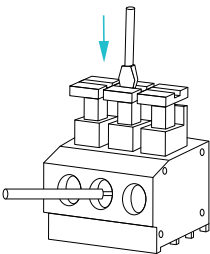

Figure 3 AcuTEMS OA Push Button Terminal Block
3. To remove the wire, push in the button to open the spring, allowing the wire to be pulled out. Refer to Figure 3 for details.